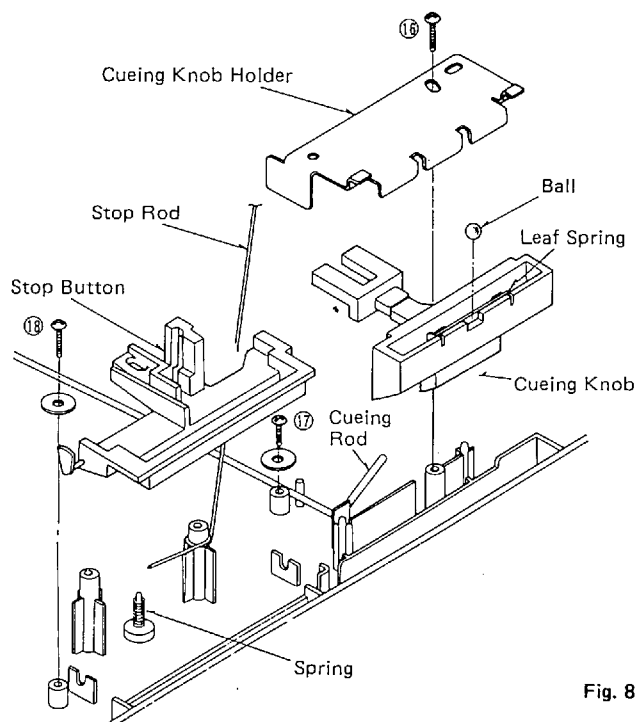

Fig. 8
1. Remove the cueing knob holder setscrew (Fig. 8: ⑯). The cueing knob can then be removed.
2. To remove the stop button, remove the stop button setscrew (Fig. 8: ⑰).